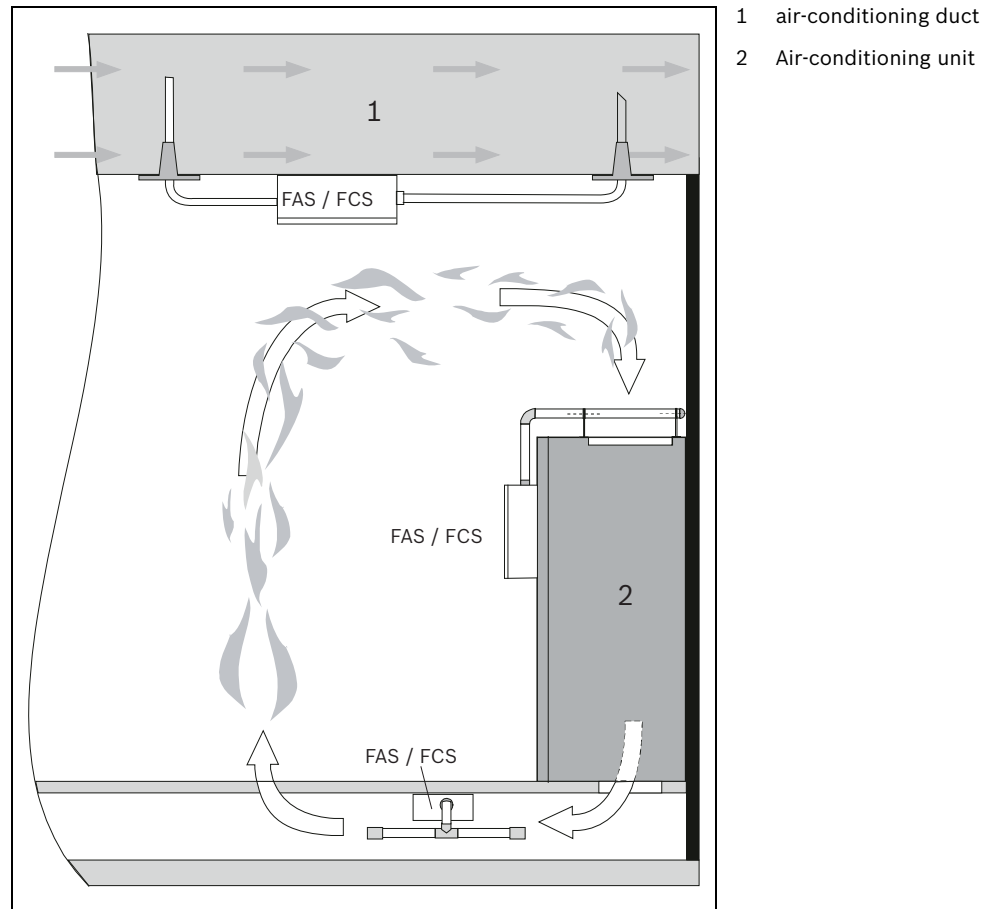

Figure 2.2 Monitoring options for an air-conditioning unit or an air-conditioning duct (depiction of principle)
- On air-conditioning units (*Figure 2.2*) or